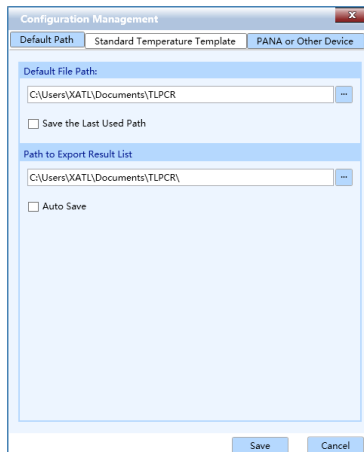

Figure E-3.8a. Option Submenu - Configuration Management Interface - Default Path
1. **Configuration Management:** It consists of three function tabs: *Default Path*, *Standard Temperature Template* and *PANA or Other Device*. Click *Configuration Management* option in the *Option* submenu and the application software will pop up the configuration management interface, as shown in figure E-3.8a.